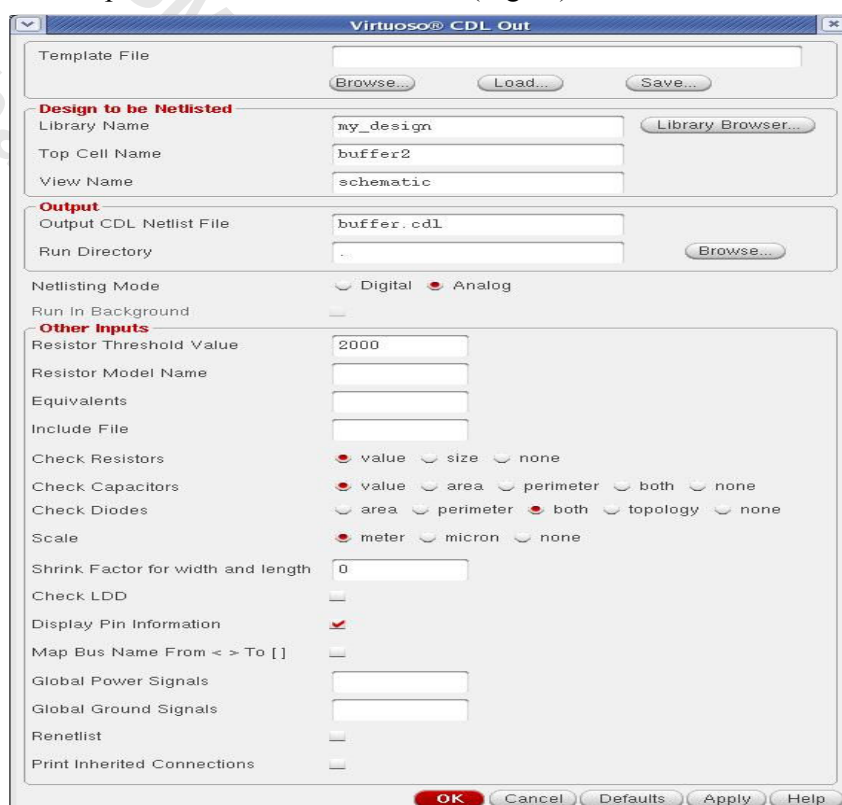

FIG. 28 Export CDL netlist
2. Select the top cell name to your design, make sure the netlist mode is "Analog", and fill in the output file name of the netlist (Fig 28).